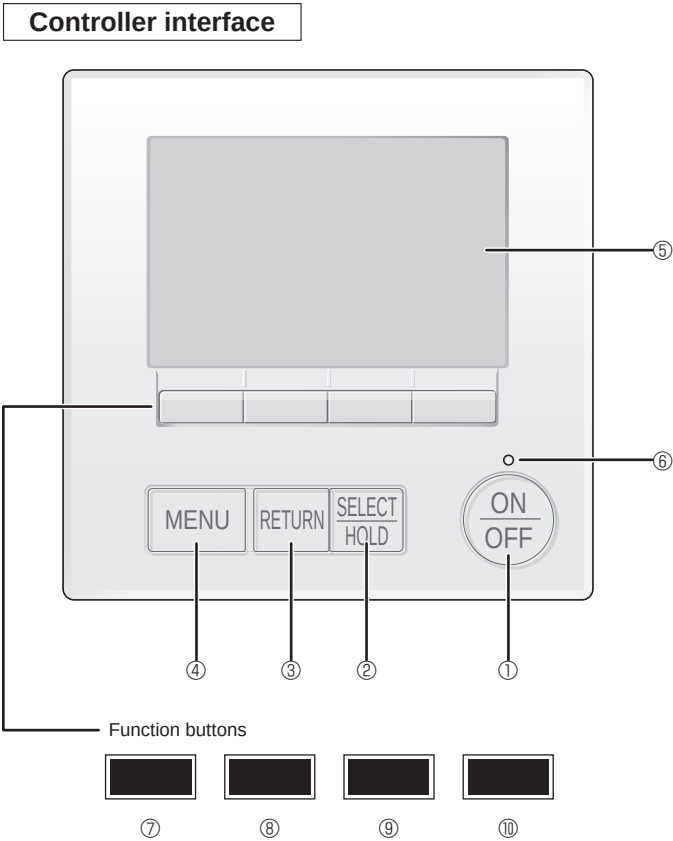

Fig. 7-1
7.2.1. Using wired MA remote controller (Fig. 7-1)
- ① [ON/OFF] button